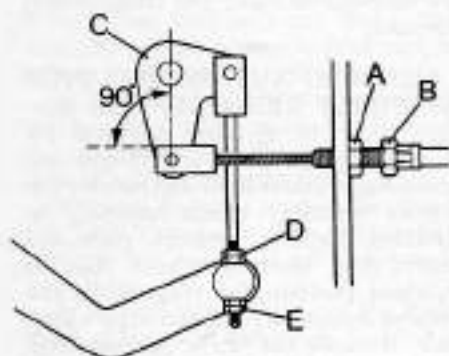

Fig. 131 - View showing pto adjustment linkage for 1490 low profile tractors.
To adjust pto clutch lever disengage pto clutch lever until catch is engaged. Check angle between centerline of crank lever and cable as shown in Fig. 131. This angle must be 90 degrees and is adjusted by loosening locknut (A) and turning cable adjusting sleeve (B) until angle is 90 degrees. Tighten locknut (A).
Adjust free movement of pto clutch lever to 63 mm (2½ inches) as shown in Fig. 132 by adjusting nuts (D and E - Fig. 131) on operating rod.